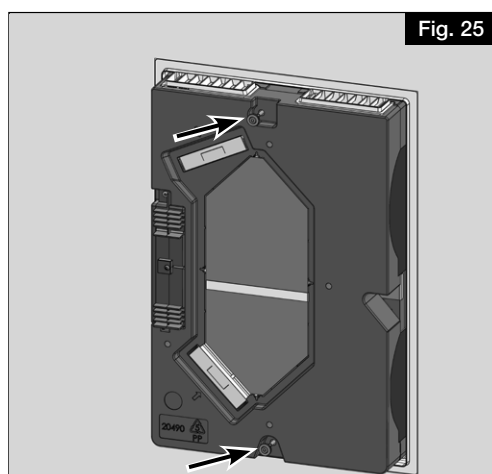

Fig. 25
7. Tighten the two knurled nuts by hand (see Fig. 25).